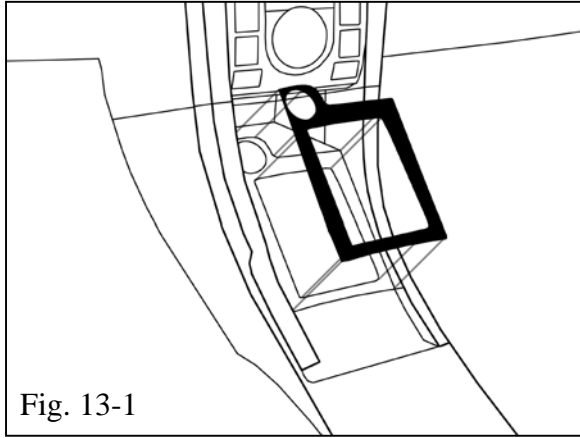

Fig. 13-1
- (1) Align part uniformly to edge of factory component. Edge of appliqué should be flush to edge of factory component,  $\pm 1.0\text{mm}$ . (Fig. 13-1)
- (2) Gently touch part into position.